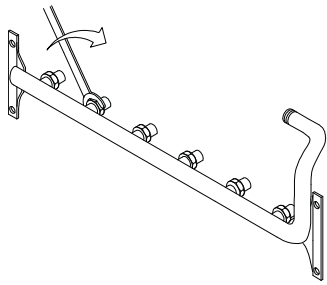

Fig. 2 - Remove Orifices
1. Remove the Natural gas (brass) burner orifices from the manifold assembly and replace them with the appropriate Propane (silver) orifices furnished in the conversion kit (Fig. 2), unless converting a high altitude unit, then see Table 1 or 2 for appropriate orifices.